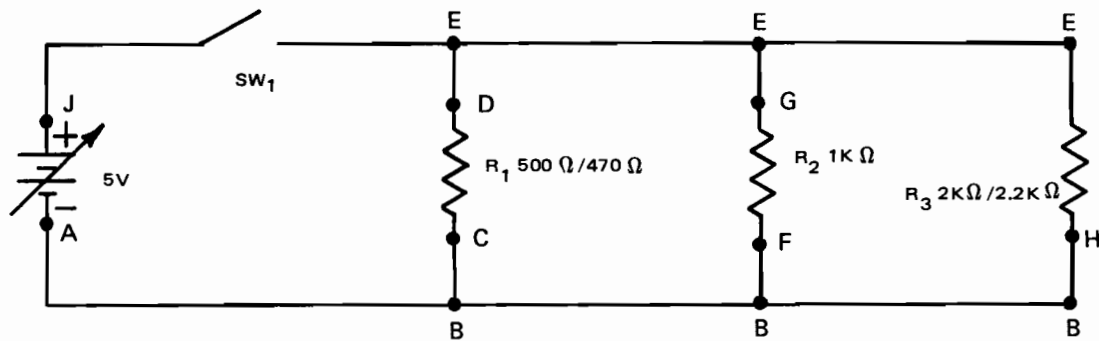

Fig. 5-2-1B
1. Connect parallel dc circuit as in Fig. 5-2-1B. Use individual resistors or those mounted on resistor decade module.